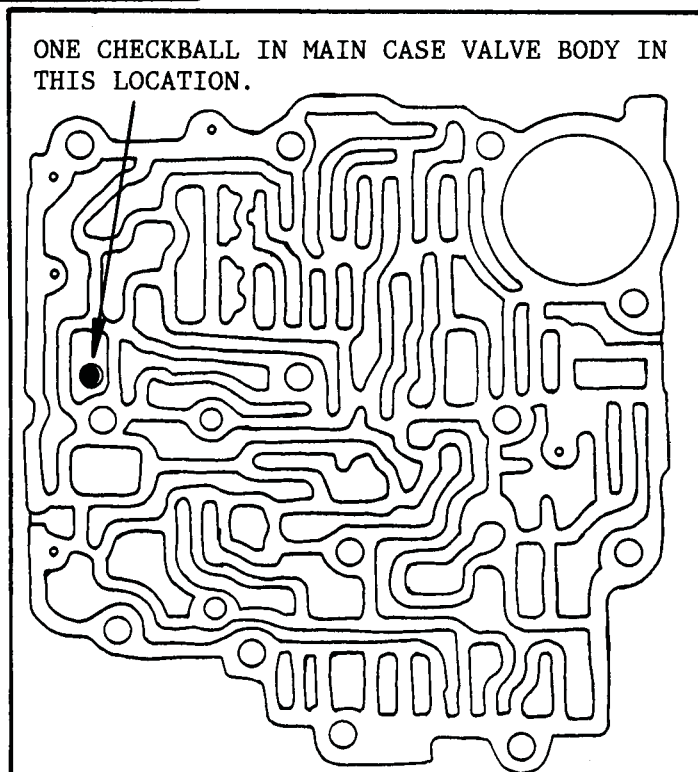

Figure 83
7. Install one checkball into valve body location, as shown in Figure 83.